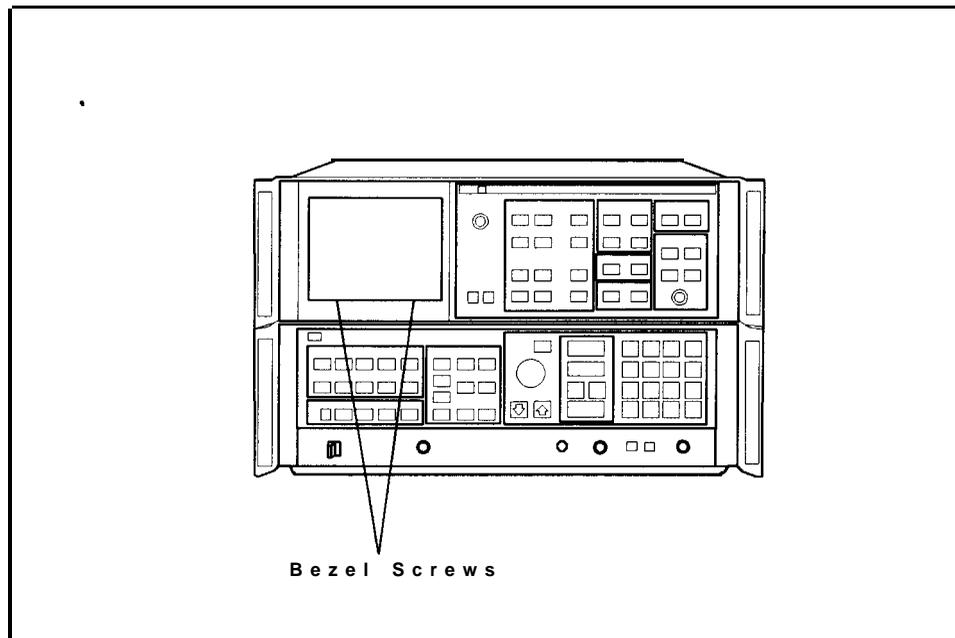

Figure I-5. Display Bezel Screws
2. Remove the two screws securing the display bezel and CRT glass shield to the front panel. These screws are located on the bottom edge of the bezel. See Figure I-5.